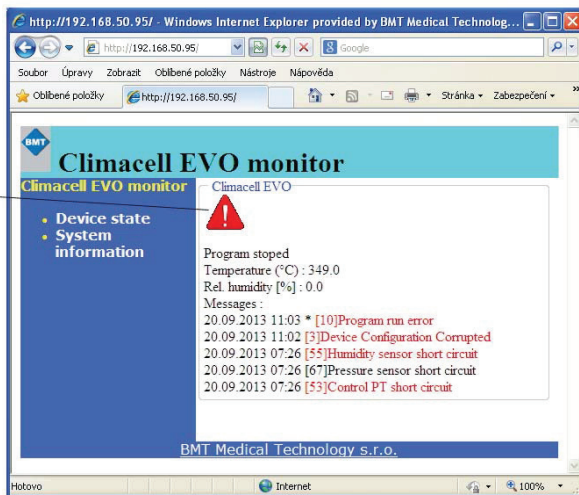

Fig. 37
5. The last error message will be displayed after clicking on the icon , see Fig. 37.